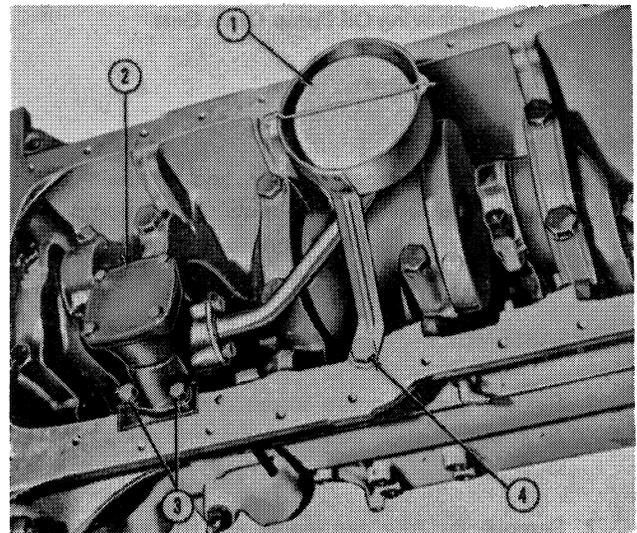

Figure 32
2. Remove the oil pump retaining bolts, and the filter screen support bracket bolt, Figure 32, and remove the oil pump and gasket. When the oil pump is removed, the intermediate shaft is loose and should be removed.
1. Remove the oil pump screen, inlet tube and cover assembly, Figure 32, by removing the two bolts securing it.
2. Place the intermediate shaft on the rotor shaft and, using a new gasket, install the oil pump assembly on the cylinder block, Figure 32. Install the two mounting bolts and lock washers and tighten to the specified torque, page 76.